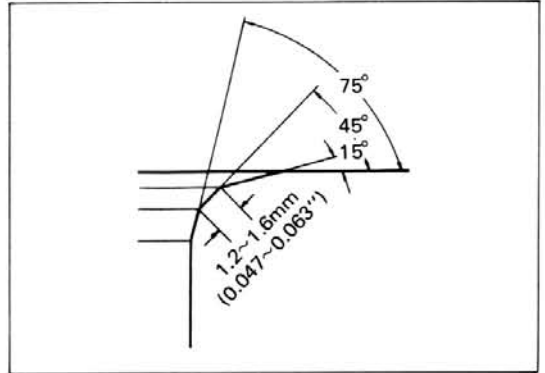

Fig. 1-16 Valve Seat Dimension
1. Check the valve seat for damage and wear. If necessary to reface the valve seat, first, check the valve guide bushings for wear, and replace the bushings if these are worn. Next, reface the valve seat with a valve seat grinder or other cutter. The valve seat should be finished as shown in figure 1-16.